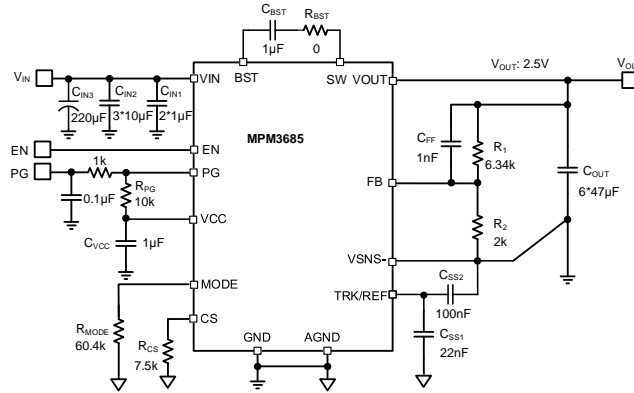

Figure 12: 2.5V Output Application Circuit
The MPM3685 has a power good (PG) output. PG is the open drain of a MOSFET. Connect PG to VCC or another external voltage source (less than 3.6V) through a pull-up resistor (typically 10kΩ). Besides, a 0.1μF capacitor and a 1kΩ resistor are suggested to be placed close to PG Pin if Vout is greater than 2.5V, more details is shown in Figure 12-Figure 14. After applying the input voltage, the MOSFET turns on, so PG is pulled to GND before TRK/REF is ready. After the FB voltage reaches 92.5% of the REF voltage, PG is pulled high after a 0.8ms delay.